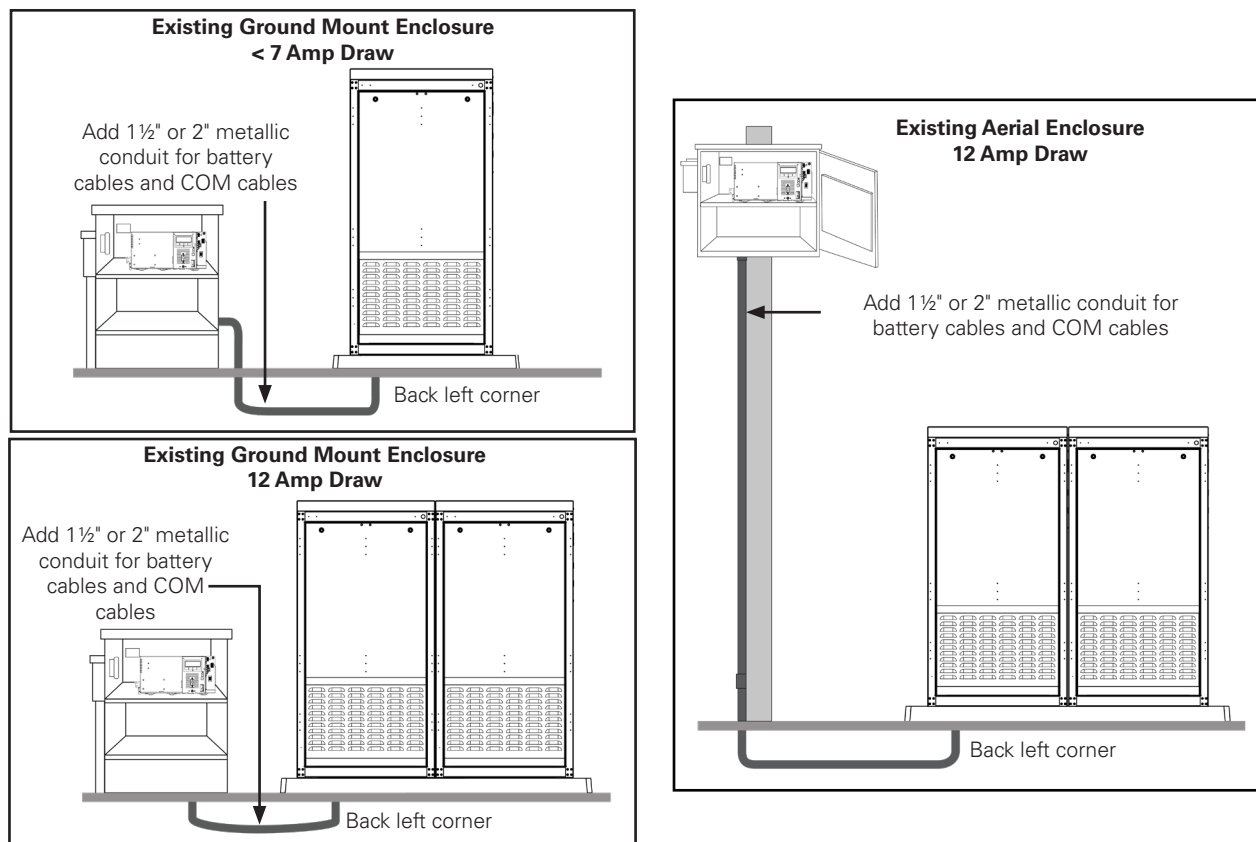

Fig. 4-13, Routing Conduit Underground Examples
1. If integrating an existing ground mounted UPE or PWE cabinet to house an XM3.1-HP™ power supply, install metallic conduit run from the PN-4LIB to existing enclosure (see **Fig. 4-13, Routing Conduit Underground Examples**). Use the cable access area in rear left side of enclosure to route wires. The rectangle entry through pad should be used to route wires from underground. The enclosures must be ground bonded.
This wire kit (p/n 876-00116-20-xxx) is used to extend the #6 AWG DC power wires for a PN-4LIB22 cabinet equipped with a battery control module (BCM A) to a PWE cabinet with an XM3.1-HP™ power supply that requires run lengths beyond 50 feet. In most cases, this kit is used for pole mounted configurations as shown in **Fig. 4-13, Routing Conduit Underground Examples**. While much of the installation process is similar to that in the previous section, there are a few key differences when installing this extension kit such as creating a custom RS485 COM cable. See the table below for recommended wire gauge for the appropriate length of your setup: